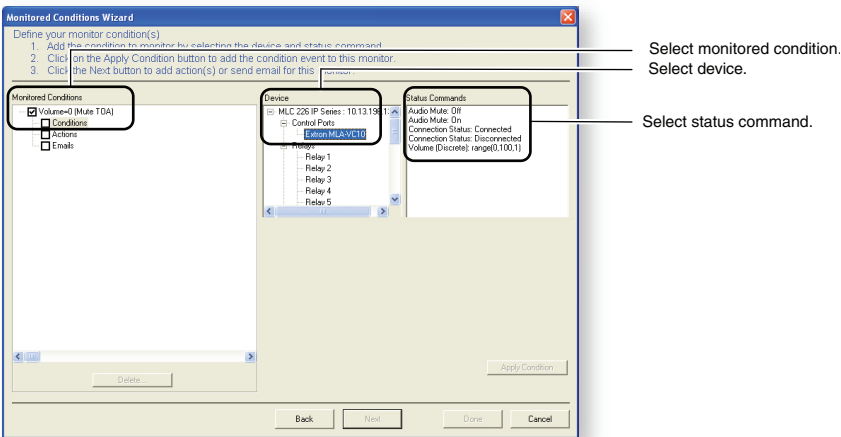

Figure 3-10 — Monitored Conditions Wizard (step 4)
- 4. Select "Extron MLA-VC10" from the "Device" pane. A new range of options opens in the "Status Commands" pane (see figure 3-10).